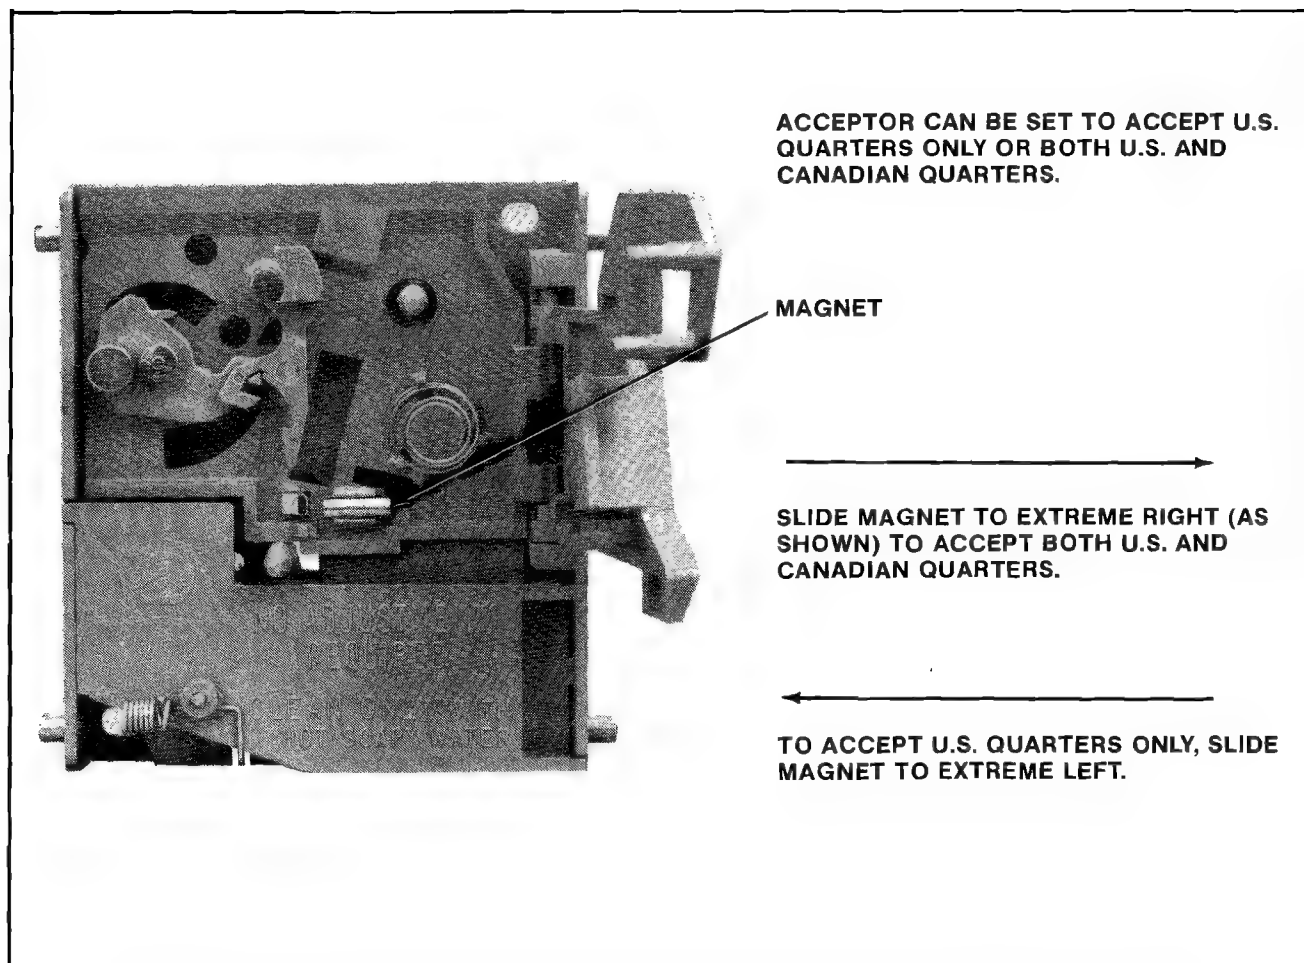

Figure 7-5 Changing the plastic coin acceptor to accept American or Canadian quarters.
6. Reinstall the coin acceptor to the coin door. See Figure 7-5.